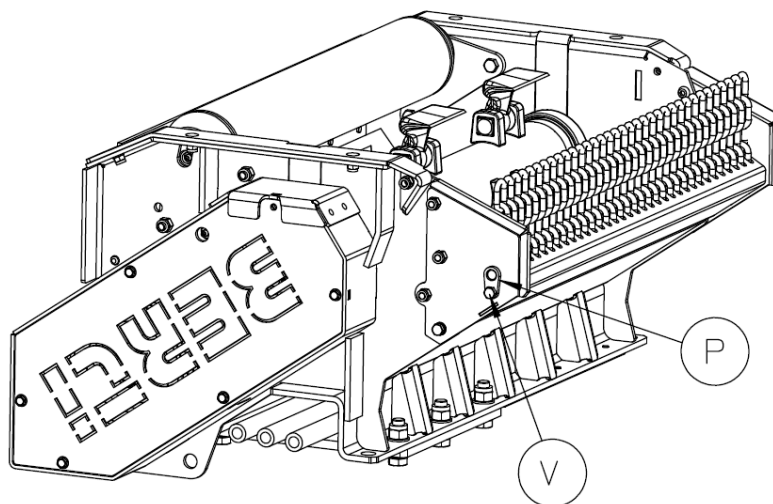

Figure 54
4. Loosen the screw V and slide the pin P out from the front hood as indicated in figure 54;